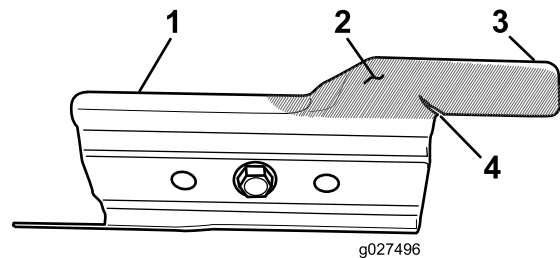

Figure 30
Carefully examine the accelerator for excessive wear (Figure 30). Because sand and abrasive material can wear away the metal (especially in the area shown as item 2 in Figure 30), check the accelerator before using the machine. If you notice that a tab on the accelerator has been worn down to a sharp edge or there is a crack, replace the accelerator.